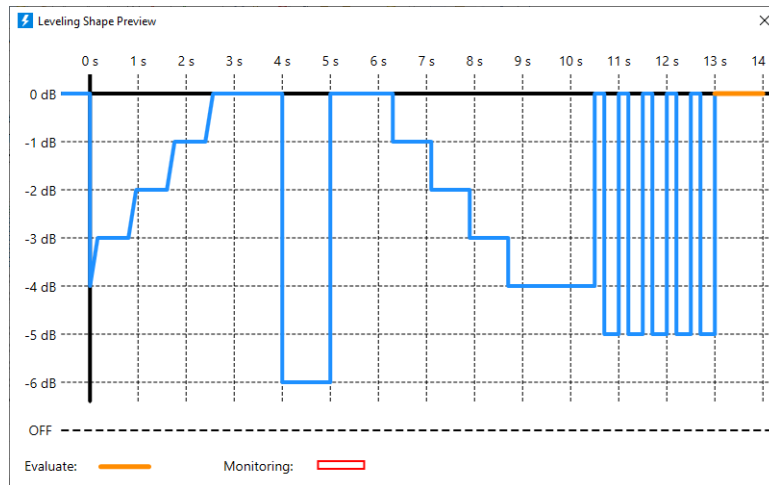

Figure 4-105: Example of a level profile, where 0 dB is the nominal test level
Automotive and MIL applications often require a level profile as in Figure 4-105.
- "Preview Leveling Shape" Creates a preview graphic representation (Figure 4-105) of the level profile specified by the full set of segments. Use this button to see the effect of your segment settings.